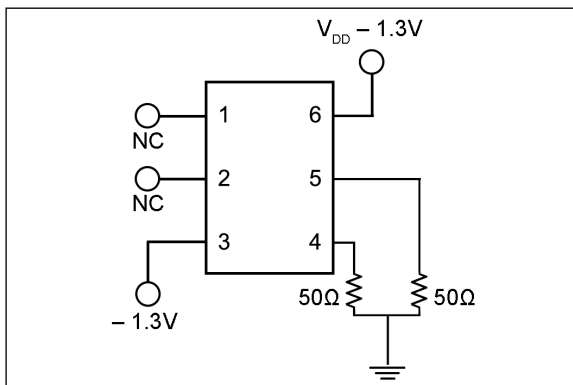
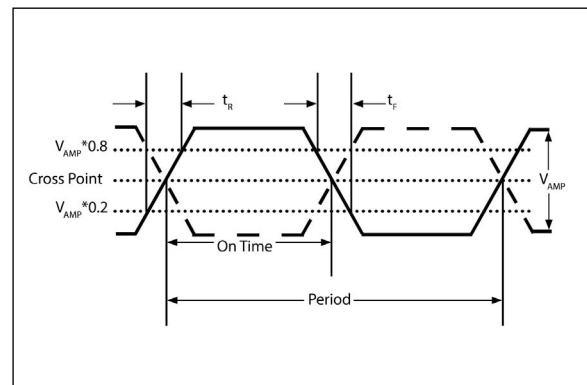
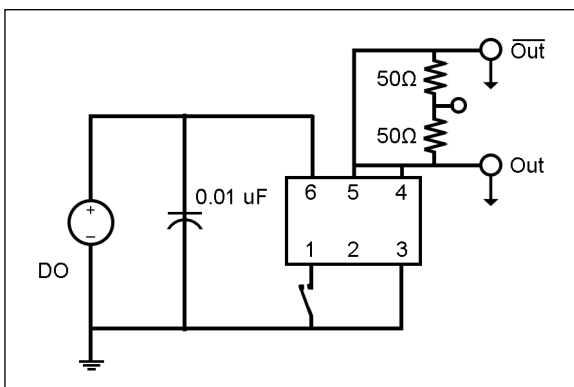

FIGURE 1-1: LVPECL Test Circuit.
FIGURE 1-2: Output Rise/Fall Time.
FIGURE 1-3: LVDS Test Circuit.
- 3:** Figure 1-1 defines the test circuit and Figure 1-2 defines these parameters.
- Note 3:** Figure 1-1 defines the test circuit and Figure 1-2 defines these parameters.
- Note 3:** Figure 1-3 defines the test circuit and Figure 1-2 defines these parameters.
- 3:** Figure 1-3 defines the test circuit and Figure 1-2 defines these parameters.